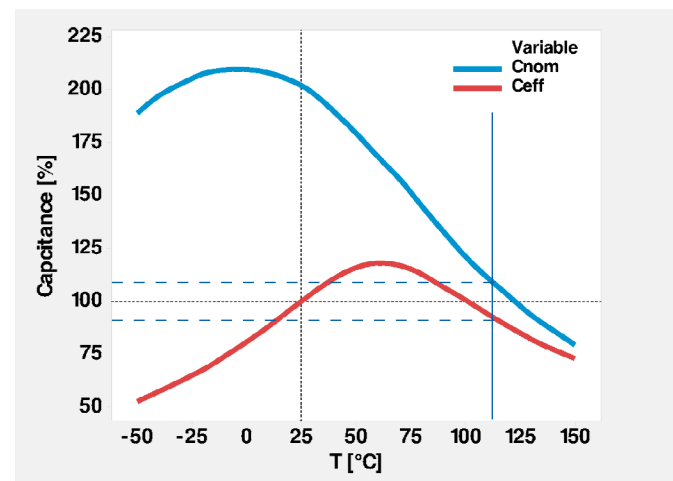

Figure 16: Difference between C_{eff} and C_{nom} for these operating conditions.
Therefore, the capacitance for the small signal scenario ① for these operating conditions is about 640 nF. On the other hand, the capacitance for the intermediate signal scenario ② for these application conditions will be around 700 nF, i.e. approximately 10% higher, whereas for scenario ③ we would have roughly 750 nF, i.e. 17% higher as shown in Figure 16.